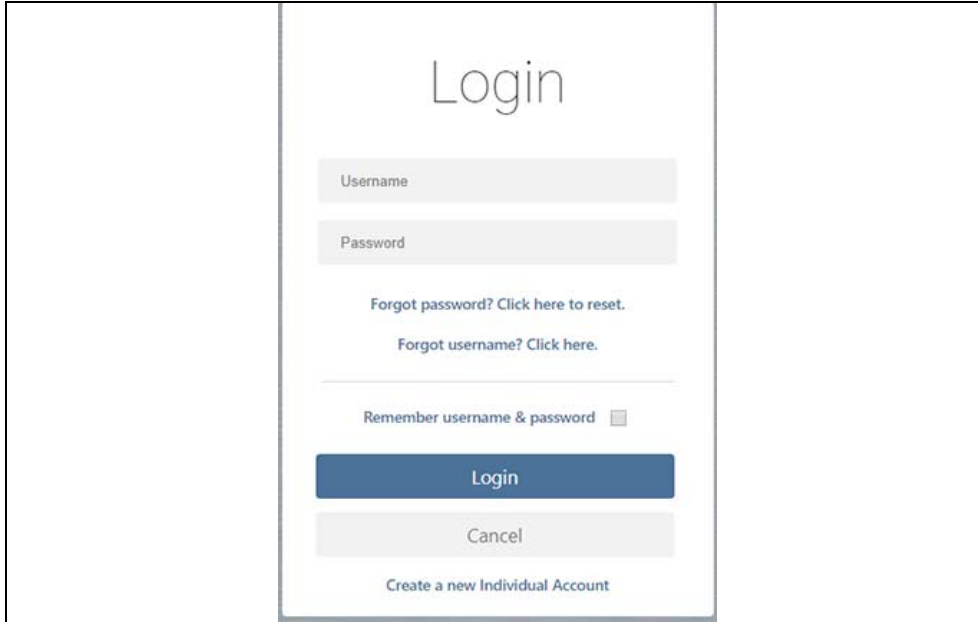

Figure 17-5
3. Log in using your **Username** and **Password** (Figure 17-5).